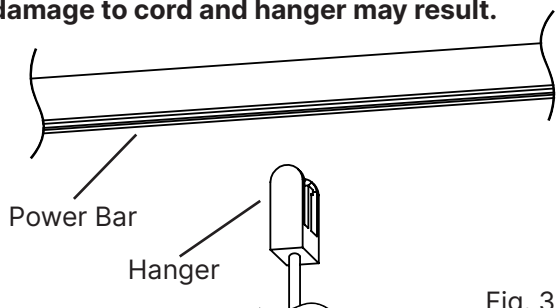

Fig. 3
1. Align **Hanger** with **Power Bar** (Fig. 3), tilt hanger, and press down firmly on the top of the Power Bar, while pressing up on the bottom of the Hanger, until the Power Bar clicks into place. (Fig. 4)